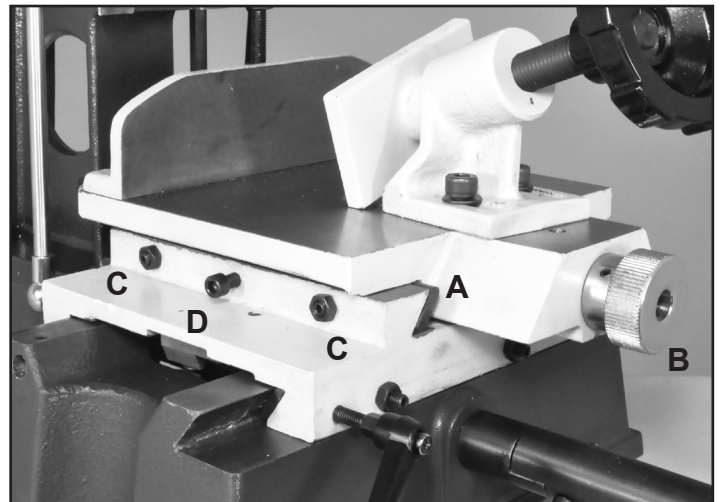

FIG. 12
The top Table (#42) that holds your work piece, adjusts forward and backwards on dovetail ways, FIG. 12, A. The table movement is controlled by the small knurled Knob (#38) (B).
1. To tighten or loosen the movement of the table, pressure on the dovetails can be adjusted with the 2 Screws and Nuts (# 54, 53). FIG. 12, C. These put pressure on the Drift Plate (#55) which rests against the table's dovetails.
2. To secure the table in one spot so that it will not move, the hex head Screw (#64) (D) can be fastened down. This is recommended for repetitive drilling of mortises on multiple work pieces.